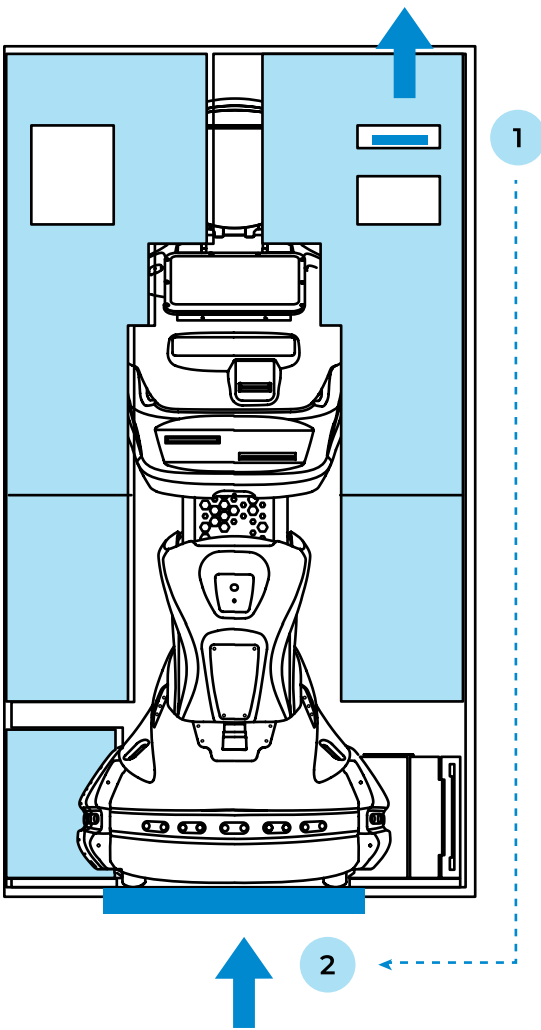

Fig. 5.8. Metal stand in the lodgement inside the case
5. Pull the metal stand out of the lodgement and place it on the profile of the case to remove the robot easily (Fig. 5.8).